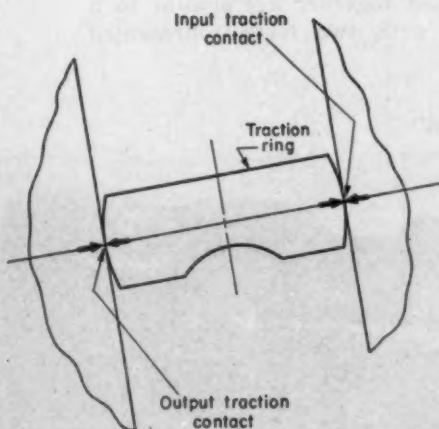
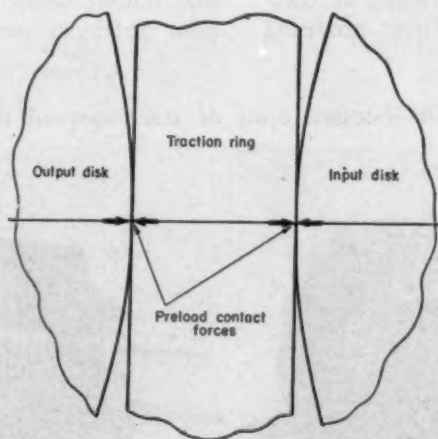
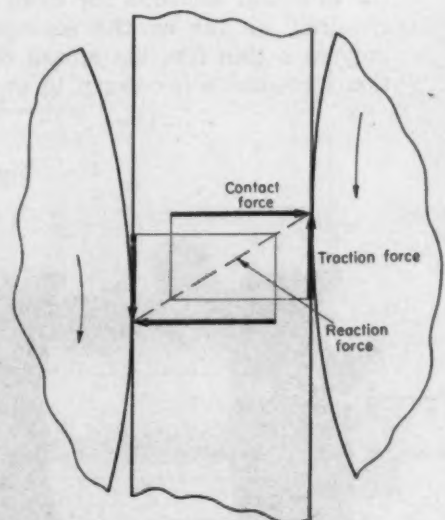

Fig. 7 — Section detail showing contacts on the traction ring
Fig. 8 — Section detail showing contacts on the traction ring, under no load, in a plane perpendicular to Fig. 7
Fig. 9 — Force diagram on traction ring under external load
An enlarged section at the contact points is shown in *Fig. 7*. The sides of the traction rings are ground to a large radius and finely finished. They contact the finely finished conical sides of the input and output disks. All three parts, of course, are hard. This combination of three elements is similar to the combination of a ball in contact with two races, with one essential difference. The radius of the contact surfaces is considerably larger than half the width of the ring. By this means, the plane of the ring is stabilized parallel to the planes of the contact surfaces. The contacts are maintained directly opposite so the contact forces are in line.
*Fig. 8* shows an enlarged section of these contact points in a plane perpendicular to *Fig. 7* under conditions of no traction load. Contacts are opposite each other and are in the plane of the axes of the disks. When no tractive effort is present, contact forces are only sufficient to insure
If a load (torsional resistance) is put on the jackshaft (drive output disks by input disks through traction rings), traction forces are produced at the contacts in the ring members as labeled in Fig. 9. Note that these traction forces are in opposite directions on the two contacts and impose a force couple on the rings. If all members were completely rigid, the rings could not swivel in the plane of Figs. 8 and 9 and the resulting contact forces would be infinite.